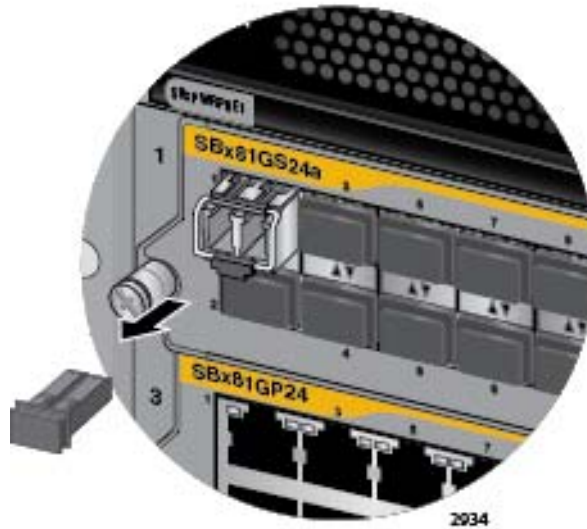

Figure 99. Removing the Dust Cover from a Transceiver
4. Remove the protective cover from the transceiver. Refer to Figure 99 on page 163.